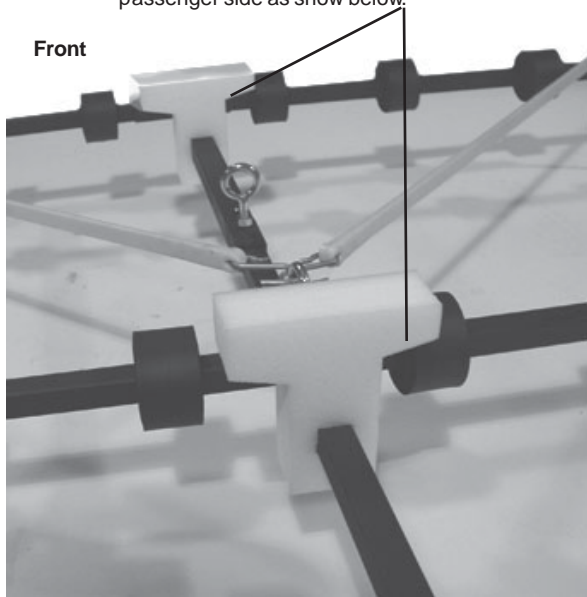

Figure 6 Foam "T" Installation
Install the front "T" Shaped Foam Standoff (16) as shown in Figure 6 and locate as in Figure 5. Be careful to orient the parts as shown, they are not symmetrical and must be installed correctly. The Foam "T" installed on the Hoist Frame T Section (1) is a tight fit and must be forced onto the bar.
Bolt. Tighten the eyebolt after aligning the part from the measurements shown in Figure 5. Install the rear Foam "T" Standoff (16) and orient as in Figure 6.